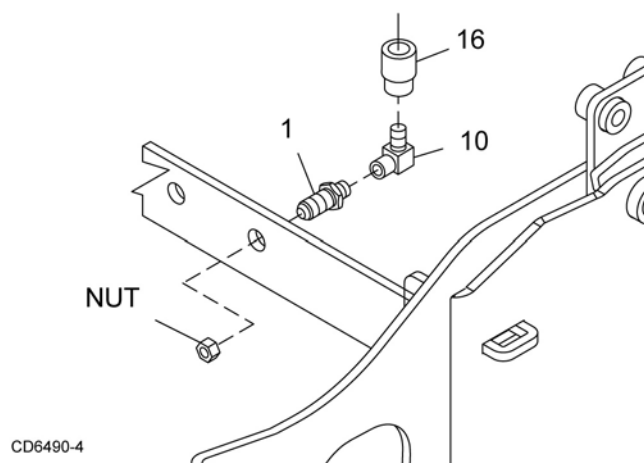

Figure 23. Bulkhead Adapter Installation - Backhoe
1. Attach bulkhead adapter (1) to crossmember between backhoe brackets. Secure with nut supplied with adapter.
2. Attach elbow (10) and female quick coupler (16) to bulkhead adapter as shown in Figure 23.